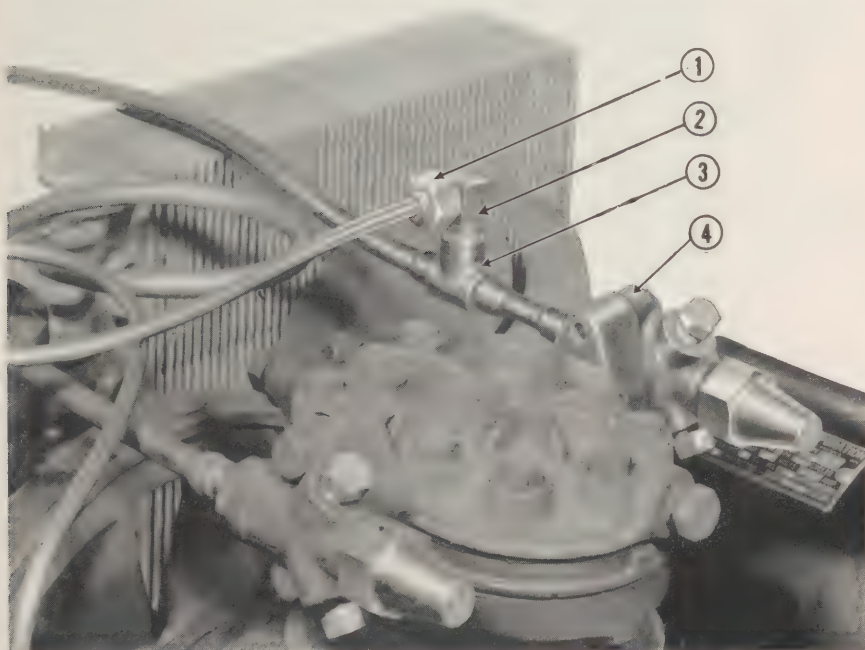
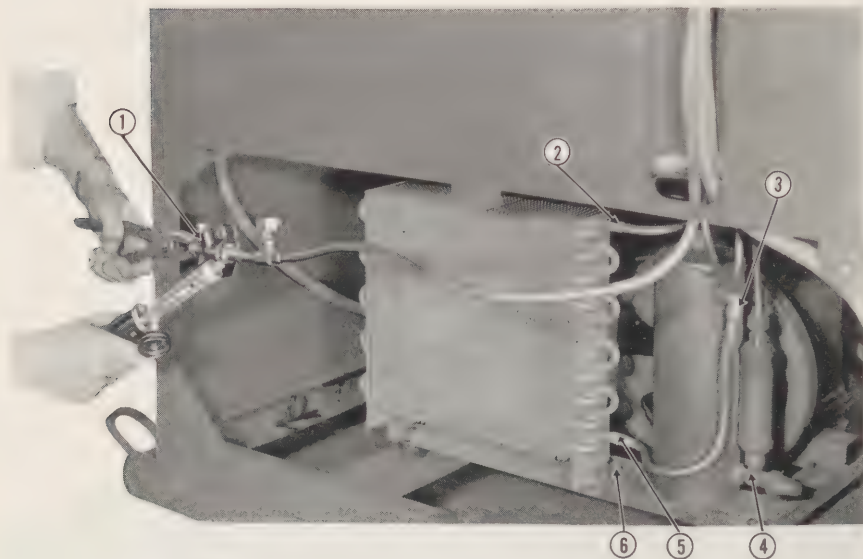
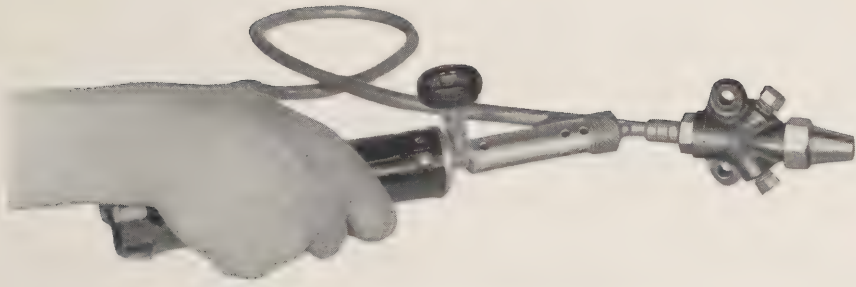

Figure 40. Low pressure control connections.
Figure 41. Unsoldering suction service valve.
Figure 42. Unsoldering discharge service valve.
- (4) Remove the  $\frac{1}{4}$  inch flare nut from the elbow fitting (fig 40, item 1), on suction line where tubing is connected to the low pressure control.
- (5) Swing suction line and suction service valve toward the rear of the cabinet in a long, easy sweep to prevent kinking the line.
- (6) Hold valve with pliers and apply torch to the sweat fitting to remove the valve (fig 41).
- (1) Remove the refrigerant from the system. (See par 44 b.)
- (2) Disconnect the discharge service valve from the compressor head by removing the 2 screws, SR01142.
- (3) Hold valve with pliers and apply torch to the sweat fitting until the solder is melted (fig 42). Pull the valve free from the line.
- (4) Remove condenser inlet tube at top of receiver by applying torch and unsweating the soldered connection (fig 41, item 3).
- (5) From the under side of the unit base, remove the nut from the stud extending from the base of the receiver through the base of the condensing unit.
- (6) Lift the receiver clear from the unit compartment.
- (1) Place receiver in position on the condensing unit base and secure with nut to the stud extending from the base of the receiver through the base of the condensing unit.
- (2) Connect the condenser inlet tube to the top of the receiver by applying torch and sweating the soldered connection (fig 41, item 3).
- (3) Screw the dehydrator on to the liquid receiver valve.
- (4) Connect the liquid line by screwing the  $\frac{1}{4}$  inch flare nut to the top of the dehydrator.
- (5) Purge the entire refrigeration system. (See par 43 c.)
- (6) Add refrigerant to the system. (See par 44 a.)
- (7) Test for leaks. (See par 40.)
- (1) Remove the liquid receiver as outlined in par 54 a.
- (2) With a wrench unscrew the liquid receiver valve from the receiver (fig 41, item 4).
- (2) Apply torch and unsweat soldered connection at the outlet point of the receiver (fig 41, item 5).
- (3) Remove discharge service valve from the compressor head.
- (4) Apply torch and unsweat soldered connection on the discharge service valve and remove valve (fig 42).
- (5) Remove the 4 supporting screws holding the condenser to the unit base (fig 41, item 6).
- (6) Lift the condenser clear from the unit compartment.
- (1) Place the condenser in position on the condensing unit base and secure with the 4 supporting screws and nuts (fig 41, item 6).
- (2) Connect the discharge service valve to the inlet end of the condenser line and resweat the soldered connection (fig 42).
- (3) Connect the discharge service valve to the head of the compressor. (Use new gasket, 9R27142.)
- (4) Connect Outlet line of the condenser to the inlet point of the receiver by resweating the soldered connection (fig 41, item 5).